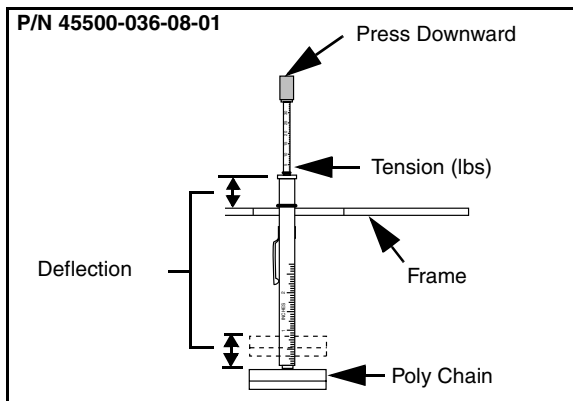

Figure 25. Testing Poly Chain Belts
- 5) Place a straight-edge over the belt access hole and push on the black tipped plunger until the bottom of the large O-ring is level with the straight-edge (Figure 25) .
The following illustration (Figure 25) demonstrates the correct way to use the belt tension tester.